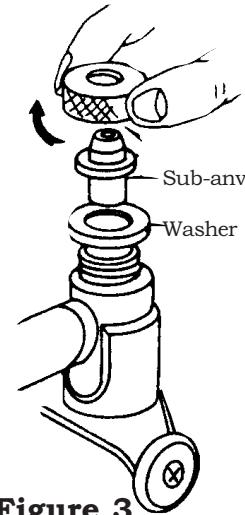

**Figure 2**
- To remove, force it open. See Figure 2.